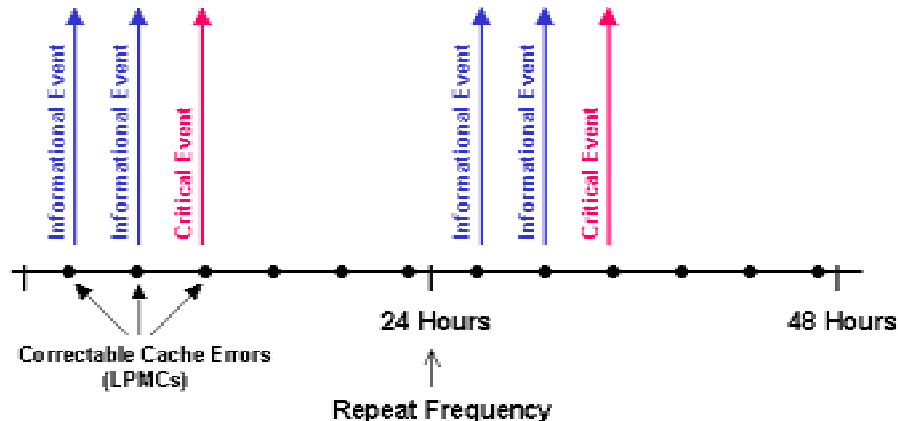

Figure 1 - EMS LPMC Event Sequence
2. **If the processor IS the monarch processor**, it cannot be deallocated. In this case, a serious EMS event is generated, indicating that the processor is experiencing a high cache error rate, that it was not possible to dynamically deallocate it, and that it should be replaced as soon as possible before a catastrophic failure occurs. Subsequent to this, the processor will continue to be monitored. After a 24-hour period has elapsed, the monitor will reset its counters and begin generating informational events again for each correctable cache error that occurs. This time period, referred to as the “repeat frequency”, is configurable. If the cache errors persist and the threshold is met again, another serious event will be generated. Figure 1 depicts the sequence of EMS events that could be generated for a processor that is consistently experiencing cache errors over a period of 48 hours but cannot be deallocated.